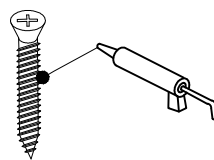

FIG.2A
3. Align the bottom rail and corner joint to the desired position on the shower base. Prior to drilling, dry fit everything making sure that everything is straight, level and plum. Pre-drill for sinkers and tap sinkers. Cut excess sinker off with hacksaw or sharp blade. Dip screws in silicone. [SEE FIG.2A] Screw corner joints and rails down. Silicone tops of screws.